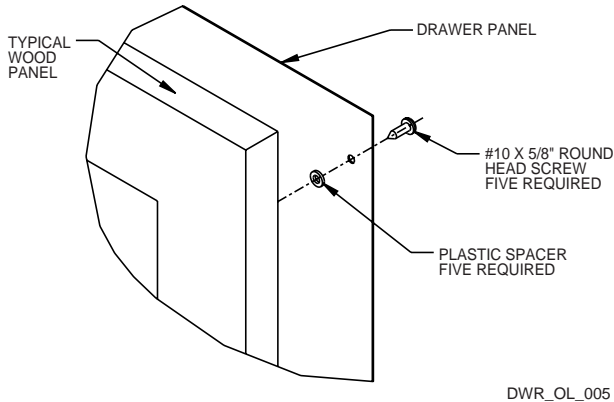

Figure 16
6. Attach the drawer panel to the wood panel using #10 x 5/8" (U-Line P/N 42121) wood screws and nylon spacers (U-Line P/N 42120). The nylon spacers fit between the wood panel and the drawer panel as shown (Figure 16).